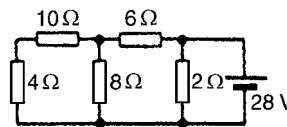

Figure 13.50
- 4 In the network shown in Fig. 13.50, the battery has negligible internal resistance. Find, using Thévenin's theorem, the current flowing in the 4 Ω resistor. [0.918 A]